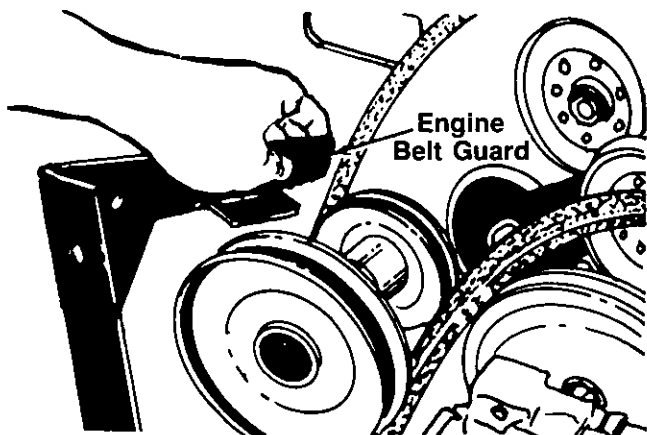

FIGURE 31.
- Remove two hex bolts, nuts and lock washers from the engine pulley belt guard at rider frame to allow the engine pulley belt guard to drop down out of the way. See figure 31.